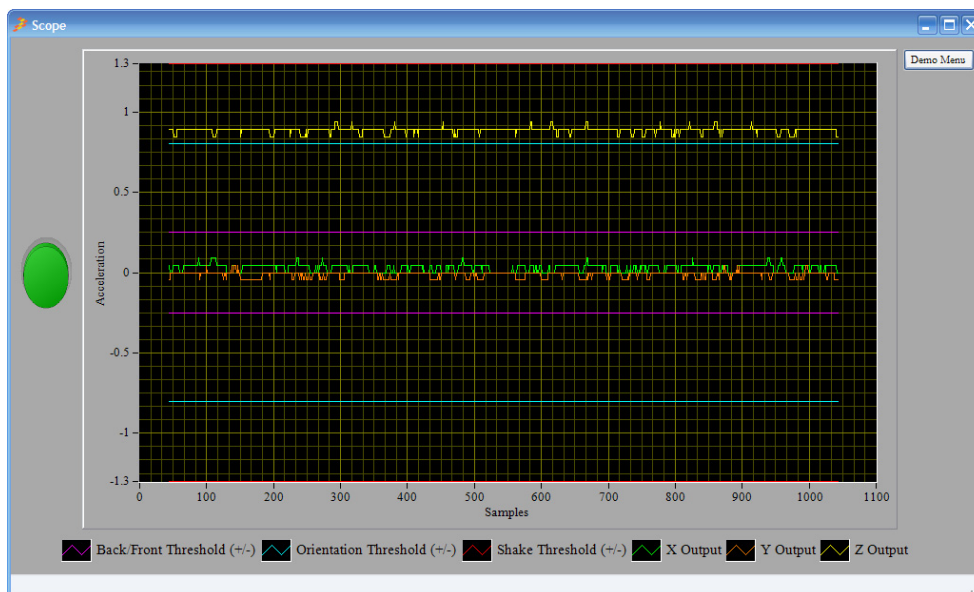

Figure 16. Scope Demo Screen Shot
3. Once the calibration has occurred the Scope demo screen will appear (Figure 16).
NOTE: There is a green button on the left side of the demo (Figure 16). This button plays/pauses the scope. The user can use this to observe the output and pause where needed.